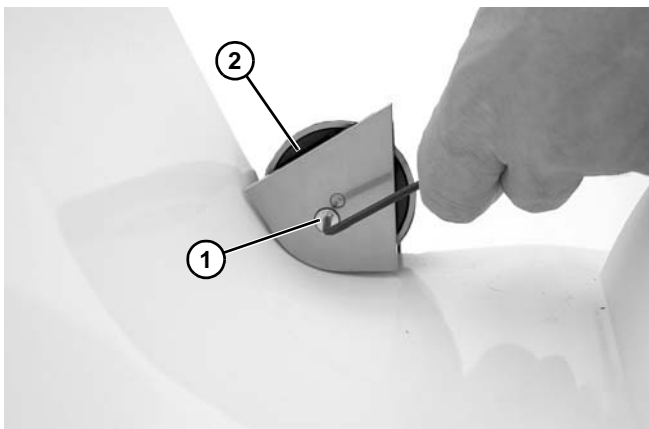

Figure 135
2. Remove screw (**Figure 135, item 1**) and worn roller bearing (**Figure 135, item 2**).
3. Replace worn bearing with new bearing, use screw (**Figure 135, item 1**) to attach new bearing.